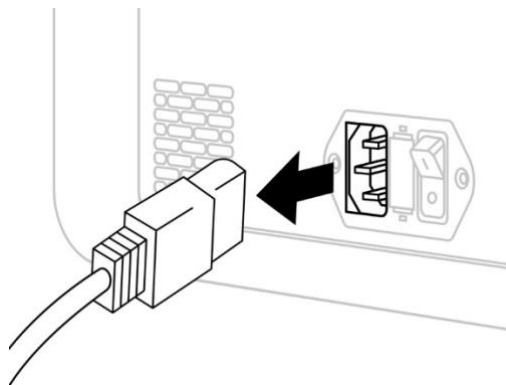

Figure 33 – Disconnecting the RF Generator Power Cord
- To remove power, disconnect the power cord from the generator power outlet (Figure 33) and the hospital-grade power outlet with protective ground (ground). Make sure the display is turned off.